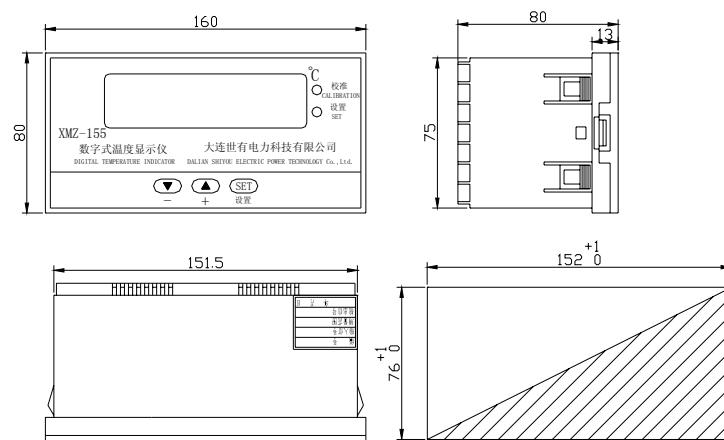

Figure 4
- 4.2.9 Outline dimension: 160mm  $\times$  80mm  $\times$  80mm (see Figure 4)